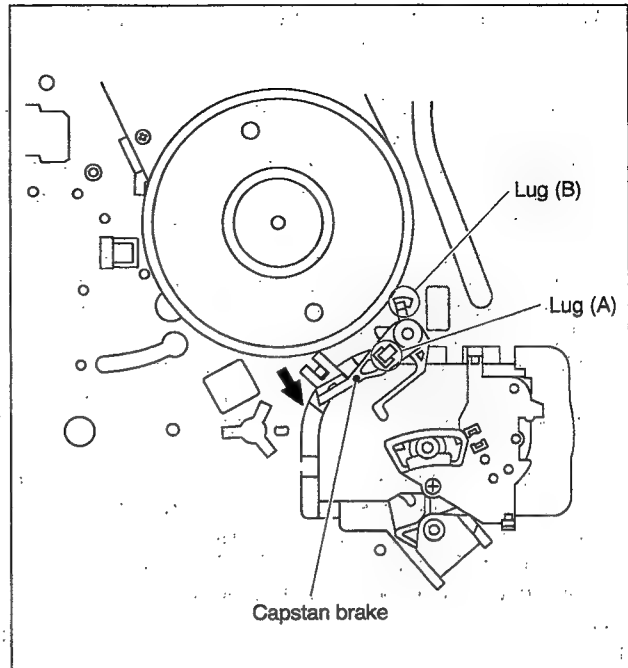

Fig. 2-2-30
- (1) Move lug A of the capstan brake in the arrow-indicated direction so that it comes into alignment with the notch of the main deck. (See Fig. 2-2-30)
- (2) Remove lug B of the capstan brake from the main deck and remove the capstan brake.